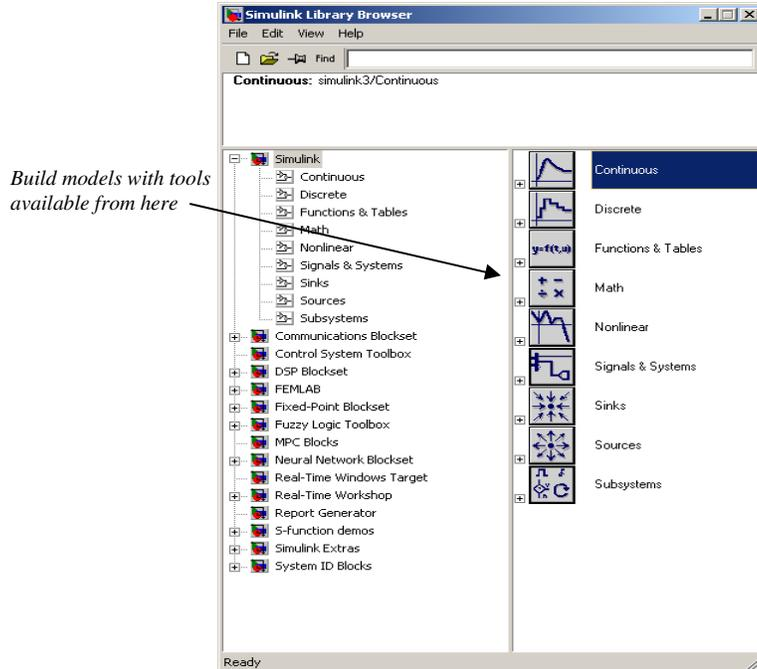

Figure 2. Simulink Library Browser Window
2.1.2 Start Simulink by clicking on the Simulink Library. A Simulink window will open as shown in Figure 2. This window shows the libraries of Simulink Blocks that are available for you to use in constructing Simulink models.